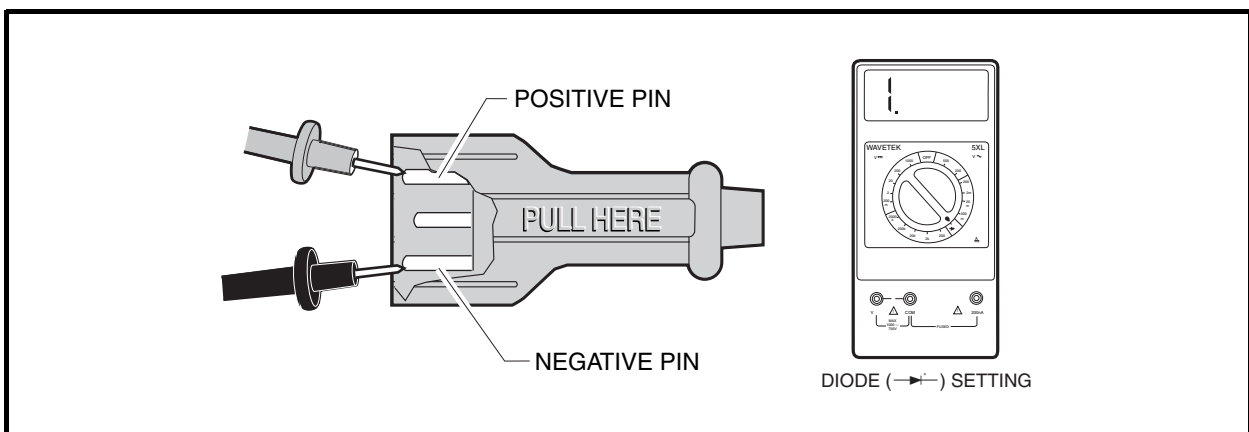

Figure 6-20 DC Plug Test
2. Using a multimeter set to the diode test function ($\rightarrow|$), place the positive (+) probe of the multimeter on the pin marked positive (+) on the DC plug (**Figure 6-20, Page 6-21**). Place the negative probe (–) on the pin marked negative (–). The multimeter should indicate an overload (no continuity).